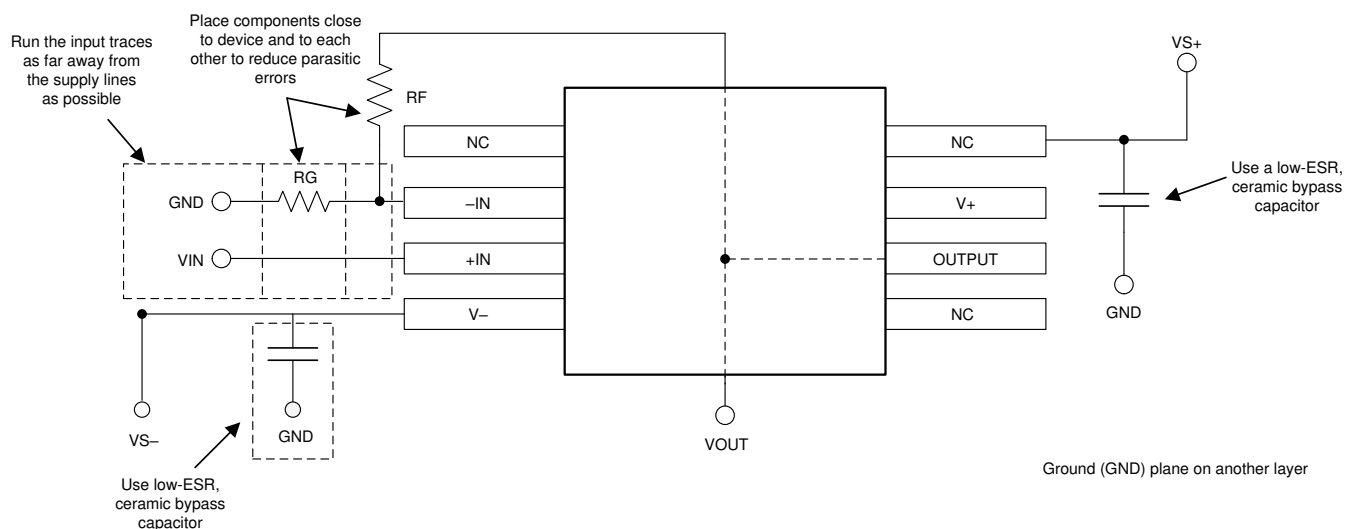

Figure 11-1. Operational Amplifier Board Layout for a Noninverting Configuration
- Place the external components as close to the device as possible. Figure 11-1 illustrates how keeping RF and RG close to the inverting input minimizes parasitic capacitance.